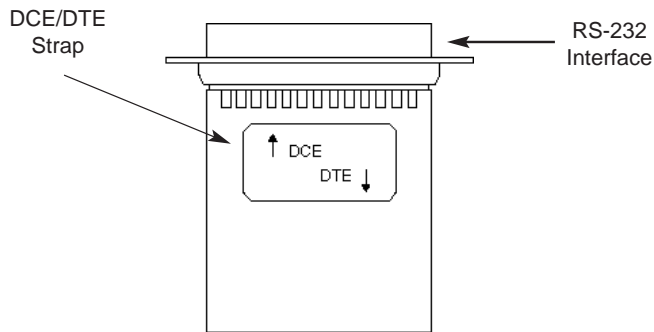

Figure 3. DCE/DTE strap orientation on PC board
3. Once you have opened the case of the Model 2020/2020N, you will see the DCE/DTE strap located on the PC board in the position shown in Figure 3, below. The **DCE/DTE strap is oriented closest to the RS-232 interface.**